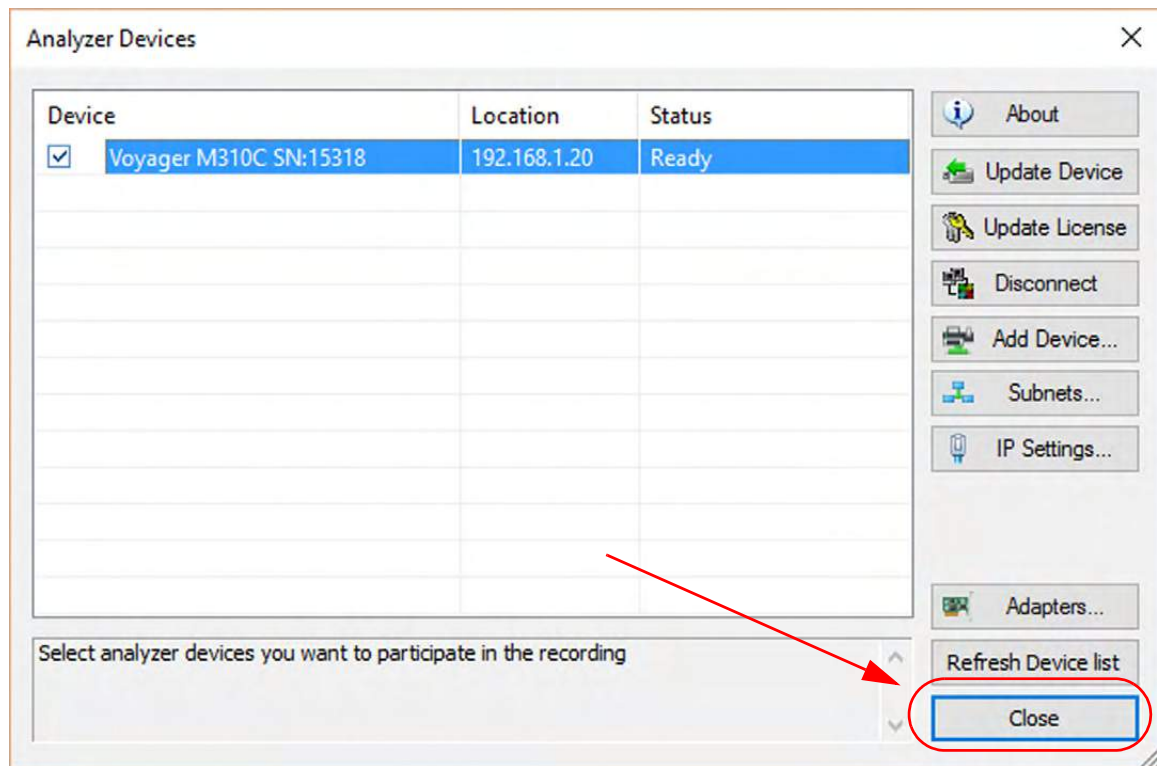

Figure 3.39: Analyzer Connected to Host PC over Ethernet Bus
- Now the USB Analyzer Devices Dialog will show the analyzer has been connected and you can close the window and begin recording. See Figure 3.39.